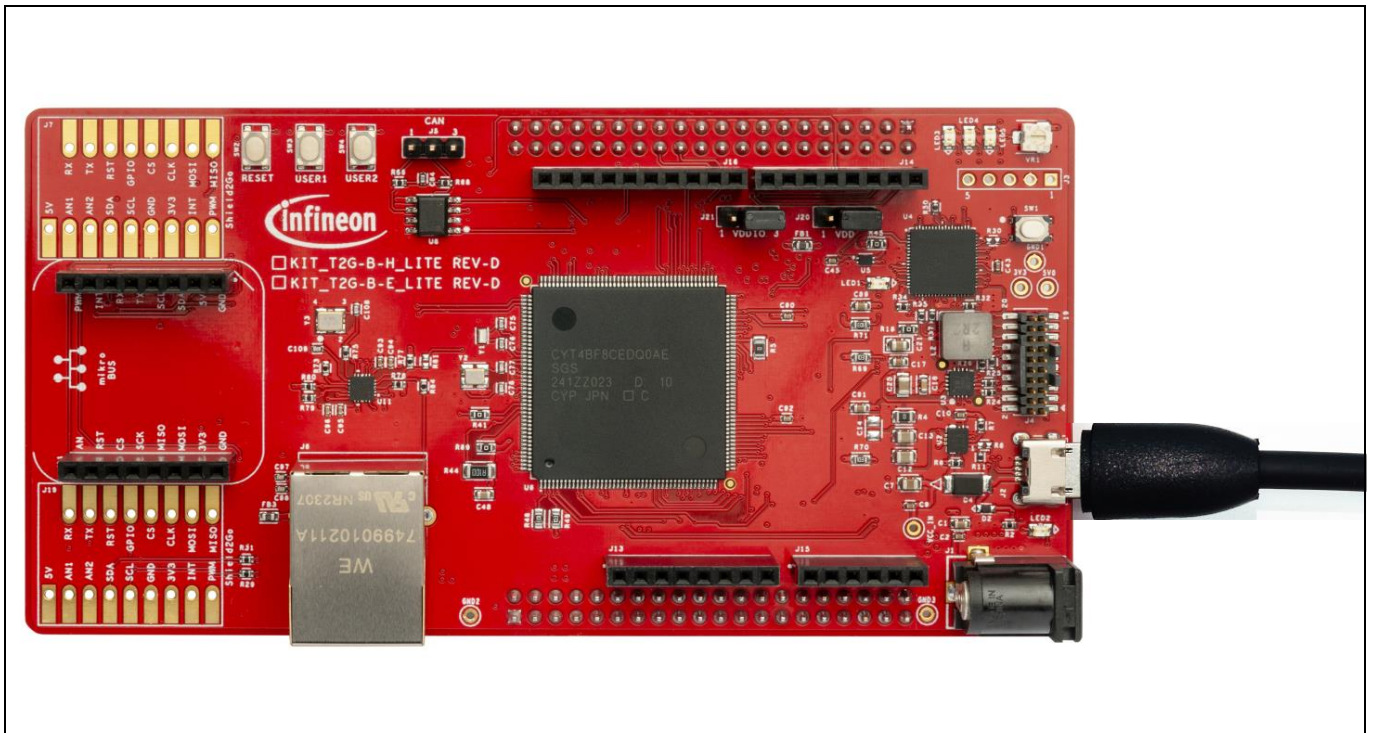

Figure 7 Connect USB cable to USB connector on the board
1. Connect the board to the PC using the provided USB cable through the KitProg3 USB connector, as shown in Figure 7. It enumerates as a USB Composite Device when you connect it to your PC for the first time.